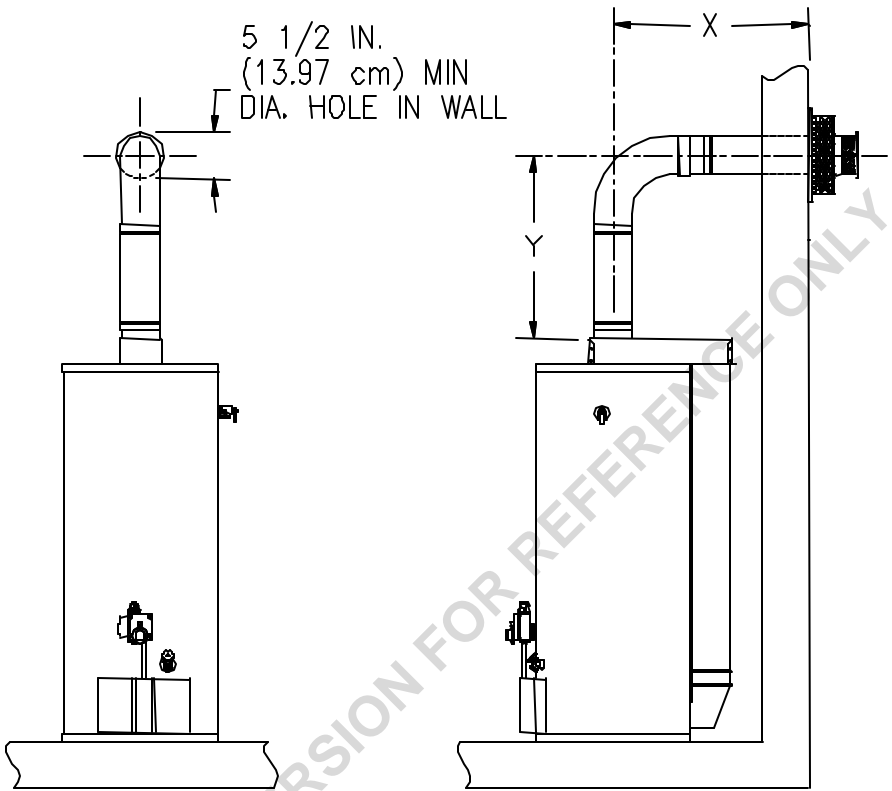

Figure 6
1. Measure the vertical height "Y" required in your installation. (See Figure 6). Reference the appropriate Table A to determine number of vent-air intake kits required in your installation.
2. Measure the horizontal length "X" required in your installation (See Figure 6). Reference Table A to determine number of vent-air intake kits required in your installation.
3. Cut a 5-1/2 inch (14 cm) diameter minimum clearance hole in the wall at the point where the vent-air intake tubes will pass through the outside wall and connect with the direct vent-air intake terminal (See Figure 6).